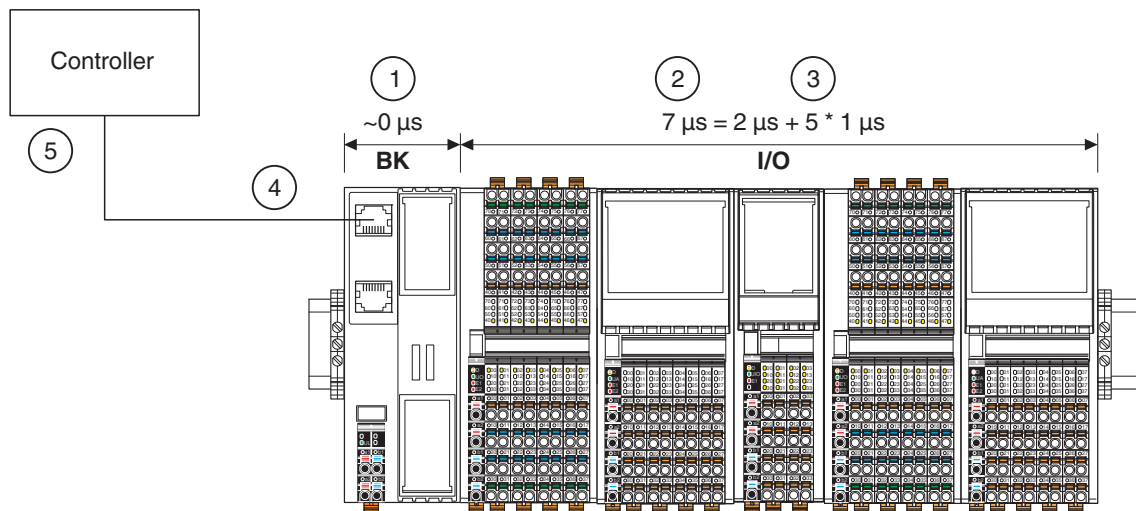

Figure A-2 Response times of the overall system
- The time for copying to the bus heads (bus coupler or controller; 1 in Figure A-2)
- The cycle time of the local bus (2)
- The conversion time in the I/O modules (3)
- The update time of the higher-level network (4)
- The processing time (cycle time) in the controller (5)